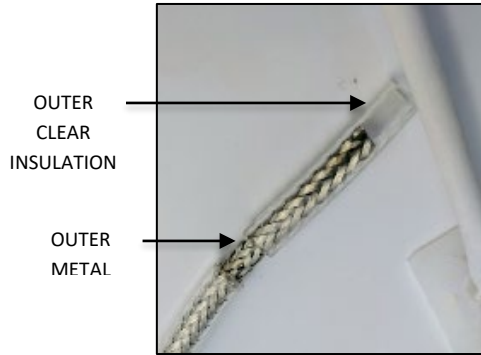
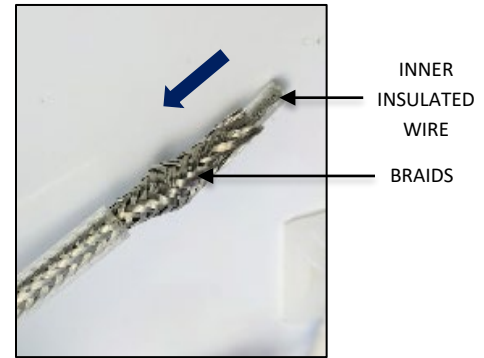

FIG. 26
FIG. 27
1. Strip off 1.00" of outer clear insulation exposing the outer metal braiding as shown in FIG. 26 below. **Be careful not to cut or damage the outer metal braiding.** Gently push braiding down to loosen the individual braids exposing the inner insulated wire as shown in FIG. 27 below.